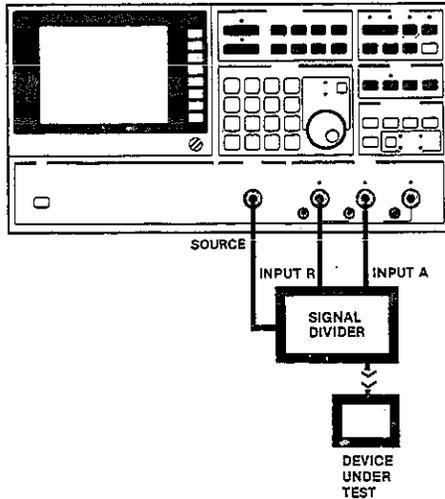

Figure 5. One Port Measurement
**Reflection Coefficient/Return Loss.** After one port calibration, the HP 3577A is automatically configured to display the reflection coefficient or return loss of the device connected to the test port (see Figure 5). The calibration procedure selects USER DEF INPUT F2, which is defined as corrected A/R, for display by the active trace. The reflection coefficient is displayed by selecting LIN MAG display function, and return loss is displayed by selecting LOG MAG display function. Alternating between the LIN MAG and LOG MAG display function redispays the measurement in the new format; thus recalibration is unnecessary.